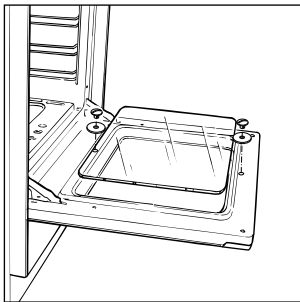

Fig. 41a Removing and replacing the oven door glass - OR60 models
- The inner glass door panel can easily be removed for cleaning by unscrewing the fixing screws (Figs. 41a-41b).